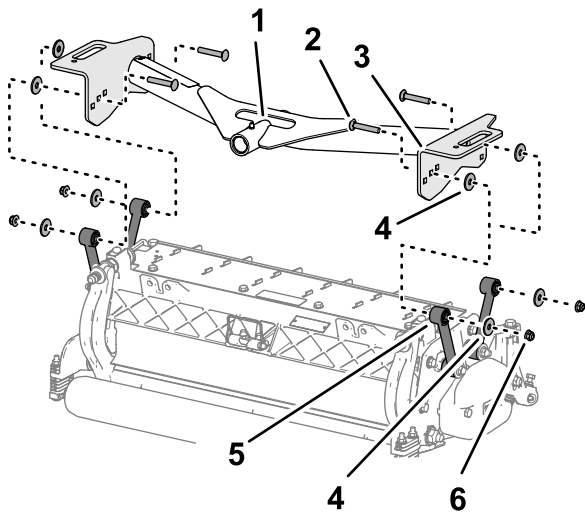

Figure 17
1. Align the holes in the plates of the front-carrier frame with the holes in the cutting unit mounting plates (Figure 17).
- Align a washer between the carrier plate and link (**Figure 17**), and loosely assemble the plates and spacer with a carriage bolt (3/8 x 2-1/4 inches), washer, and flange locknut (3/8 inch).